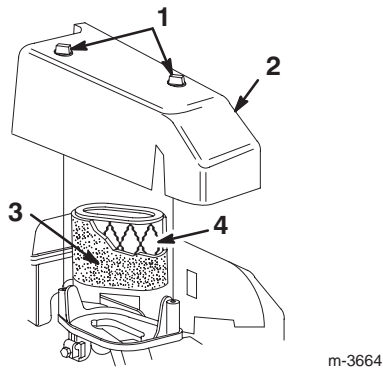

Figure 15
3. Remove two knobs that secure the air filter cover to the engine (Fig. 15).
4. Remove the cover and clean it thoroughly (Fig. 15).
6. If the pre-cleaner is dirty, carefully wash it with a mild detergent and water. Rinse the pre-cleaner in clean water and allow it to dry (Fig. 15).
8. Install the pre-cleaner over the paper cartridge (Fig. 15).
9. Install the air filter cover (Fig. 15).
10. Tighten the cover securely in place with the two knobs (Fig. 15).